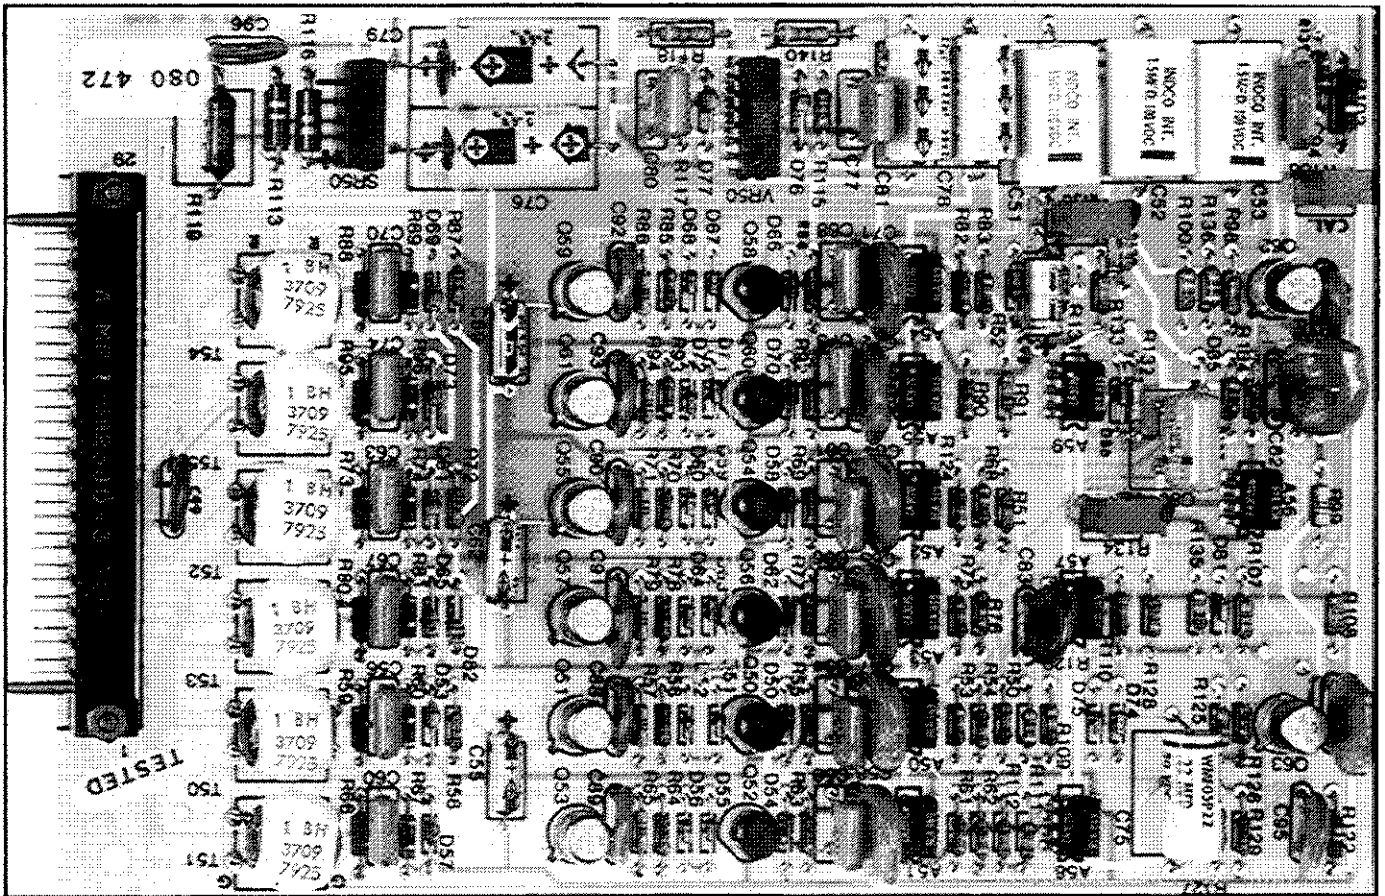

FIGURE 2-10 TYPICAL PRINTED CIRCUIT BOARD
The printed circuit (PC) board shown in Figure 2-10 is an insulated surface on which conductors and other circuit components are mounted. The conductors (copper strips) are chemically etched on the PC board to provide the necessary electrical path to perform a specific job. The printed circuit wiring has low resistance and passes the desired current to various components mounted on the PC board.